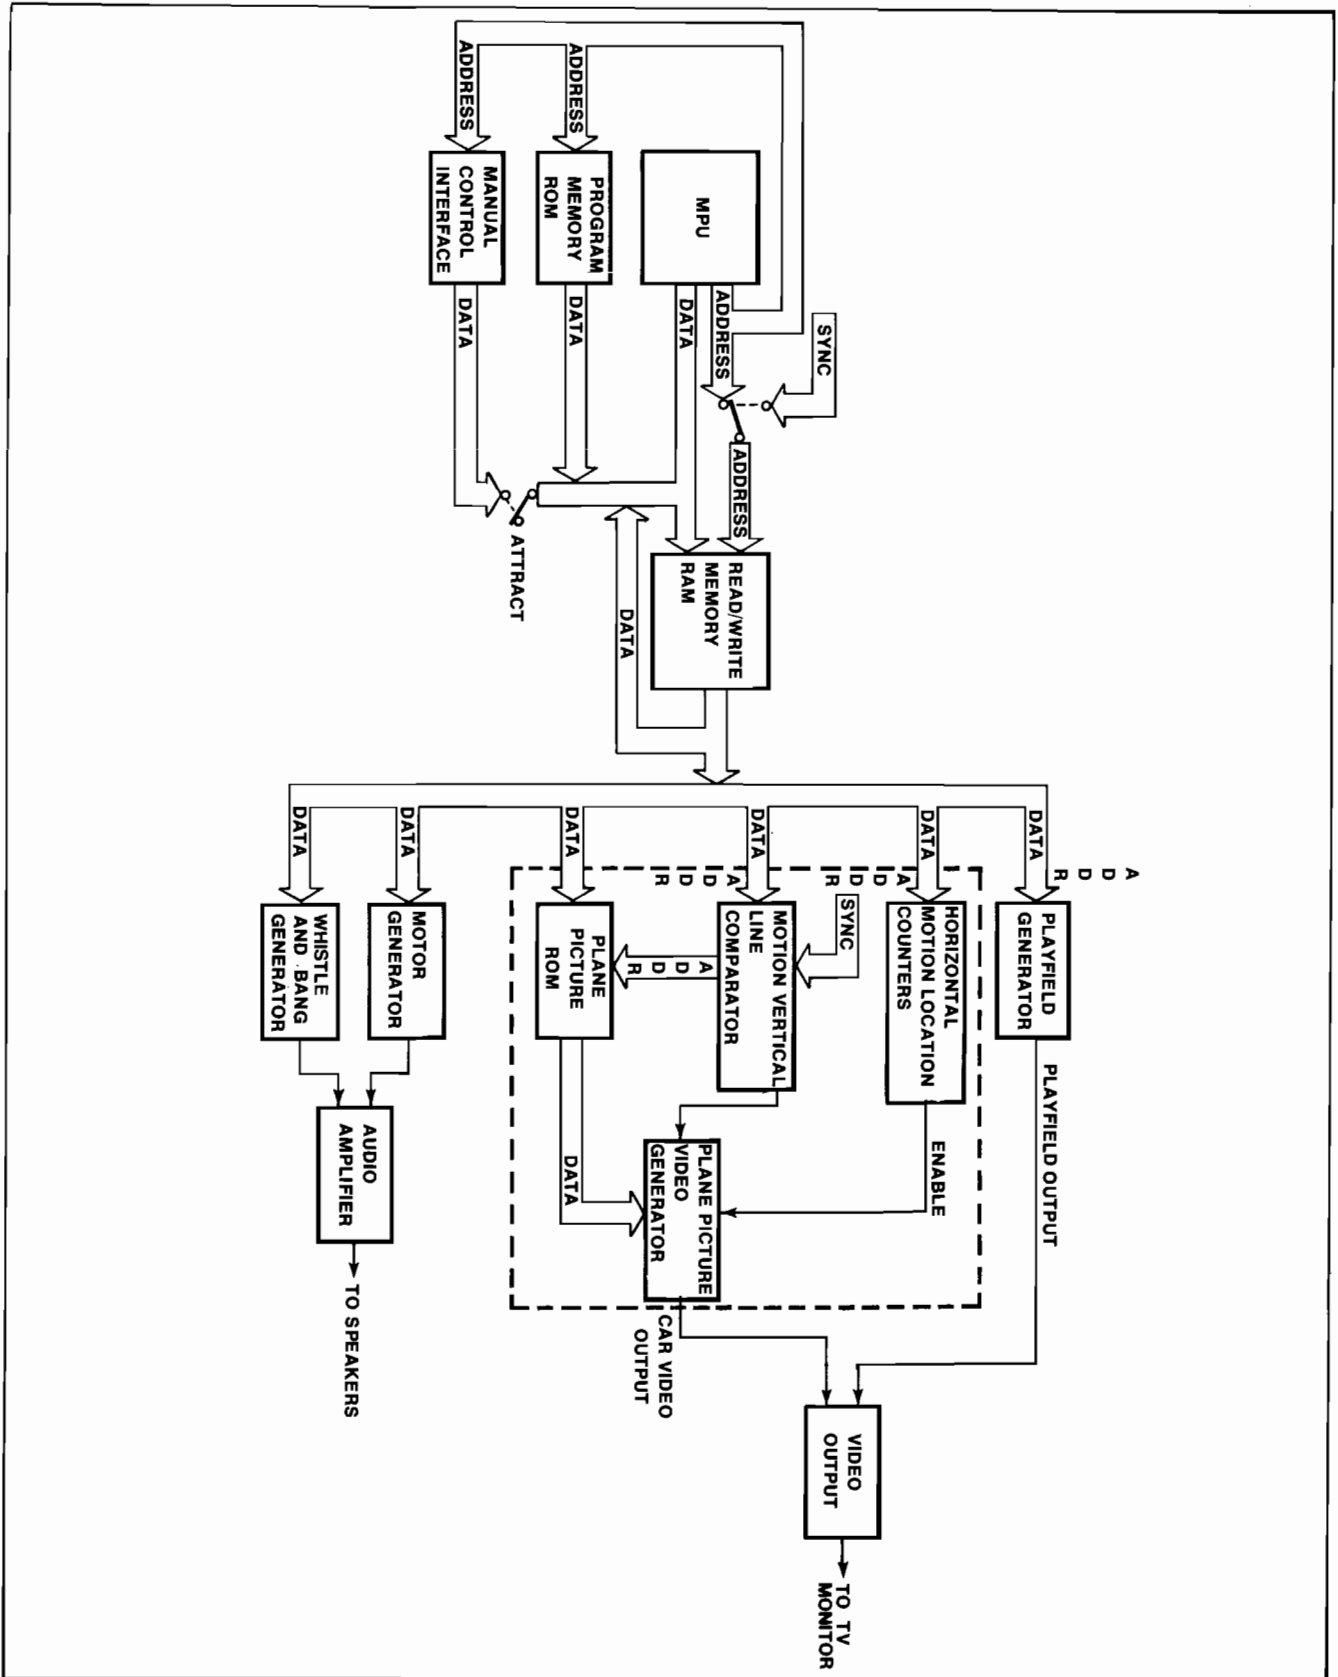

Figure 4-2 Canyon Bomber PCB Block Diagram
The following circuitry discussion is separated into two sections—the microcomputer circuitry and game circuitry. Figure 4-2 is a block diagram of the entire Canyon Bomber PCB.
B. COMPONENTS OF THE MICROCOMPUTER SYSTEM (Refer to Figure 4-2)
tal synchronization pulse 4H by D-type flip-flop C6. The 4H input of C6 (pin 13) is fed twice through the flip-flop at a clock rate of 12.096 MHz. The output of the first flip-flop and the output of the second flip-flop is fed through an OR gate to produce a phase 0 (Φ_0) signal, as illustrated in Figure 4-2. The MPU provides an output of Φ_2 that is exactly like Φ_0 , except with a slight delay, and an output Φ_1 that is of an opposite phase of Φ_2 .